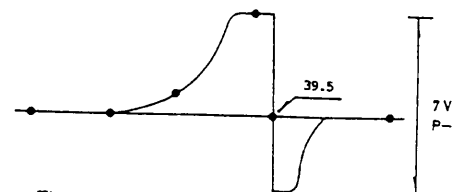

Fig 4.
- 4: Adjust T103 to obtain waveform as fig 4.